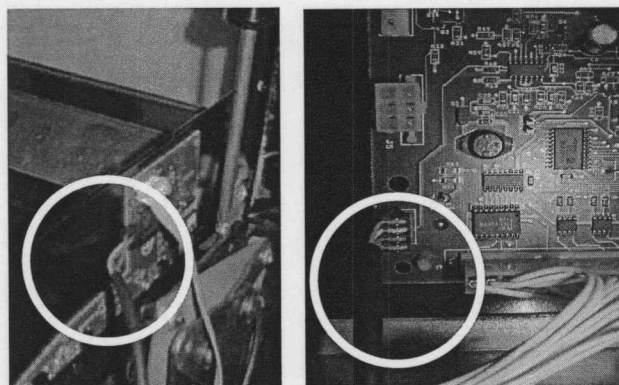

Figure 6.
7. Connect the receiver board to the control board. Use the Sensor to Control Cable that is already connected to the receiver board. The unconnected end will plug into the Drop Sensor header, J19, of the vending machine controller (VMC). See Figure 6.